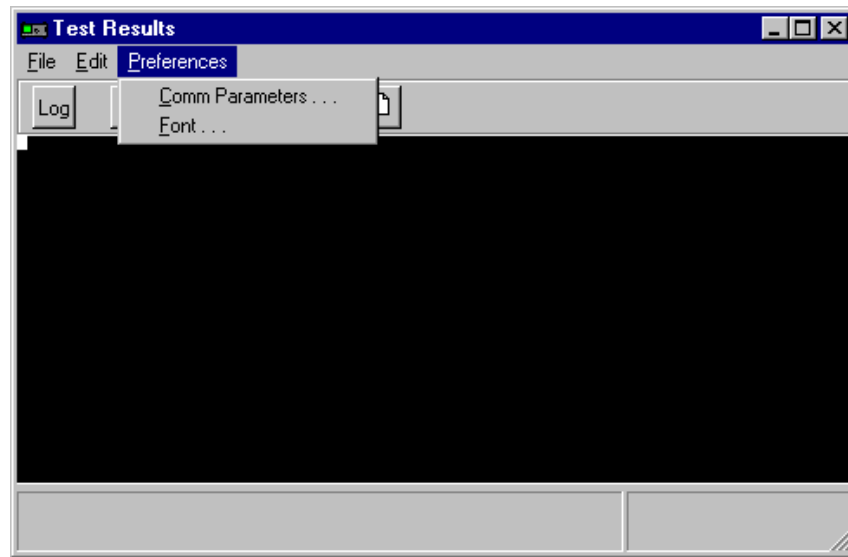

Figure 34 **Comm Port Setup Screen**
3. On the PC screen, click on the **Preferences** field, then click on the **Comm Parameters** field to display the Comm Port Setup screen (figure 34).